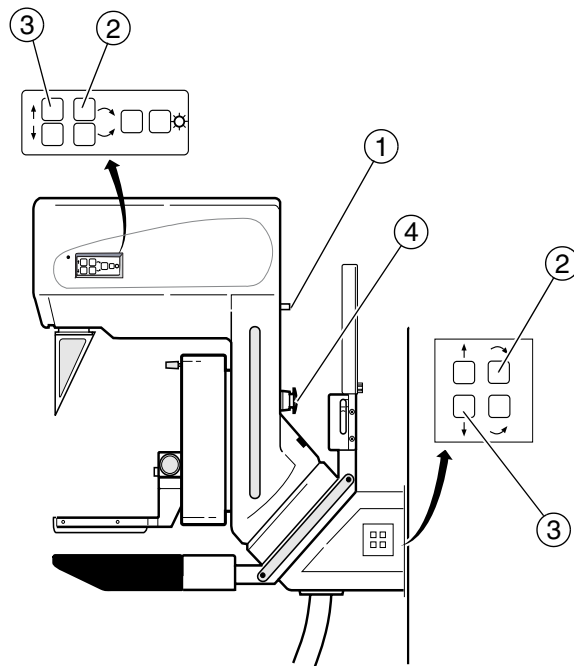

Fig. 1 Swivel arm system
4. Set the projection angle to minimum with presetting knob (No. 1/Fig. 1).
5. Check the rotary motion of the swivel arm system by pressing the buttons (No. 2/ Fig. 1) one by one.
1. Set the projection angle to **60 degrees** with the presetting knob (1/Fig. 1).
2. Press one of the buttons (2/Fig. 1).